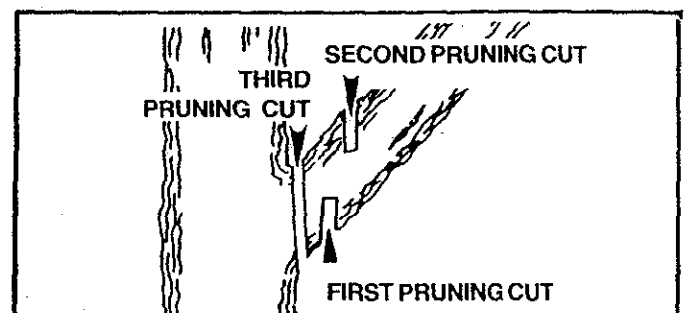

Figure 31
- b. Refer to Figure 31 for the pruning technique.